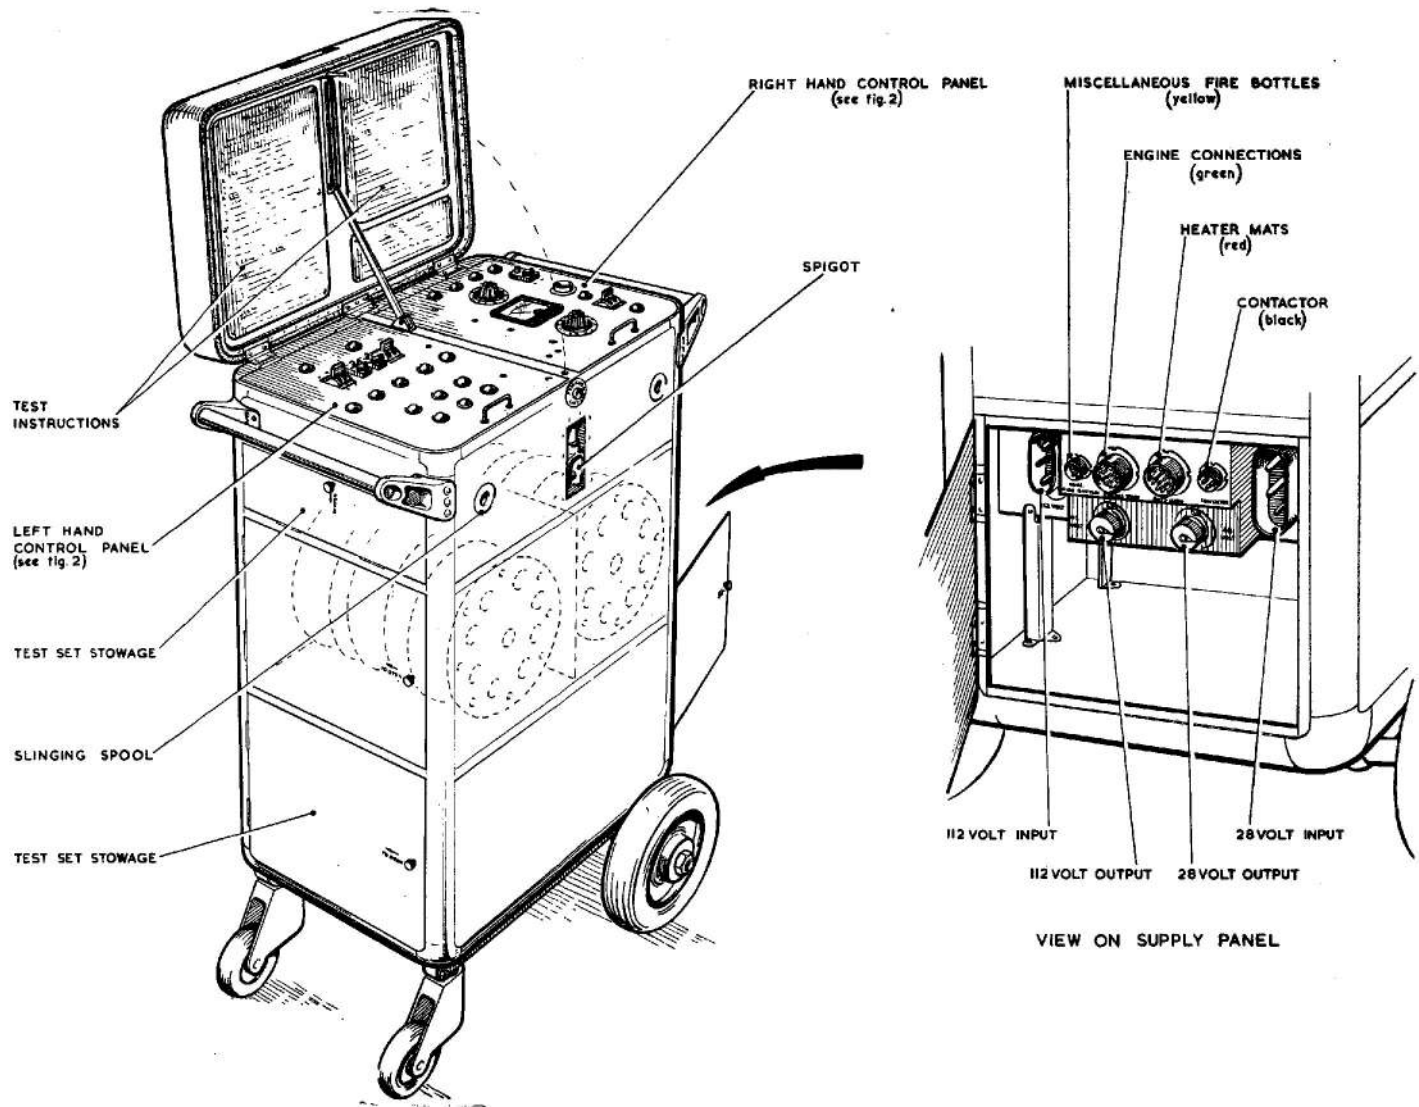

Fig. 1. General arrangement
3. The test console, fig. 1, is of riveted light alloy construction built up from Widney Dorlec standard sections and sheet metal. It has two solid-tyred castoring wheels at the front and two fixed pneumatic-tyred wheels (pressurized to 15 lb./sq. in.) at the rear. The fitment of two tubular handles, one at each end, make the console fully manoeuvrable in confined spaces.
to store drums of cable for use during testing operations. There are three drums in each section (*fig. 1*).
7. The rear section of the bottom compartment (*fig. 1*), has a fixed bracket on which are mounted four colour-coded connector plugs, input plugs for 28 volt and 112 volt, and two auxiliary output sockets providing 28 volt and 112 volt supplies. The front section of the bottom compartment provides storage space for the airbrake and main flaps hand-held test set.
11. The 28 volt and 112 volt input supplies are obtained from the ground supply truck or other suitable source, and are connected to the console through the appropriate plug in the bottom compartment (fig. 1).